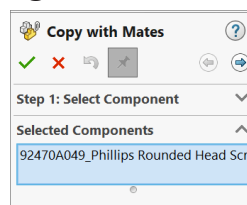

Fig. 46
Step 1: Select Component, **Fig. 46**